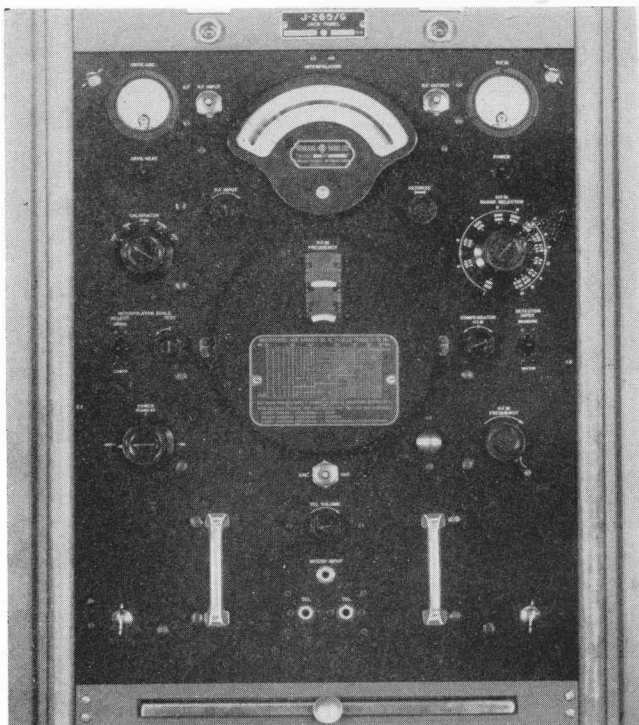

Figure 1-23. Frequency Meter Navy Model LR-1 Mounted in Signal Distribution Unit
(17) FREQUENCY METER NAVY MODEL LR-1 (Figure 1-23).—The Frequency Meter Navy Model LR-1 is intended to measure frequencies from 160 - 30,000 KCS. It consists of a single unit containing the power supply, heterodyne frequency meter, crystal calibrator, detector - audio amplifier, and electronic frequency meter. It operates from a 110-120 volt 60 cycle power source. It requires 160 watts for operation. For more complete information refer to the instruction book entitled "Combined Heterodyne Frequency Meter and Crystal Controlled Calibrator Equipment, Model LR-1." This component is Government furnished, and is not included in the contractor's shipment of equipment. Mounting AN Type